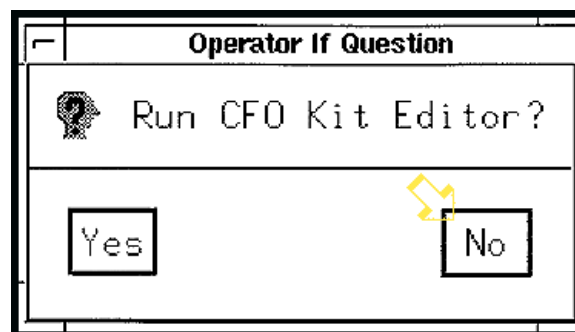

Figure 7
- 105 On the "Run CFO Kit Editor" menu, click on "No." See the arrow in Figure 7.